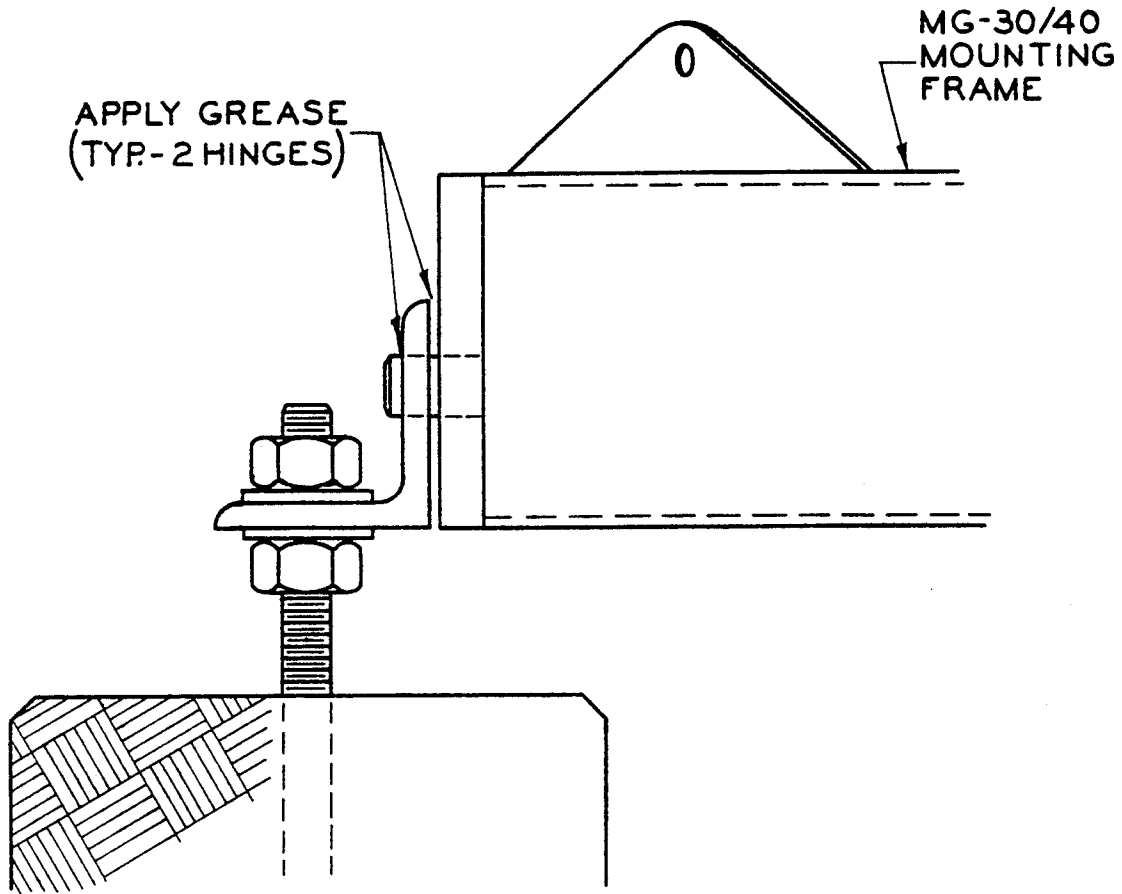

FIG. 6-3
1. MG-30/40 LIR structure base should be lubricated at the two hinges with a good grade of lithium grease (See Fig. 6-3).